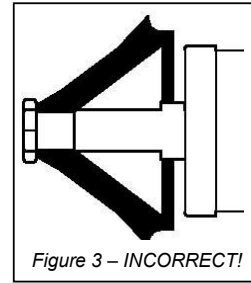
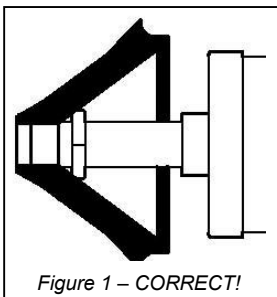
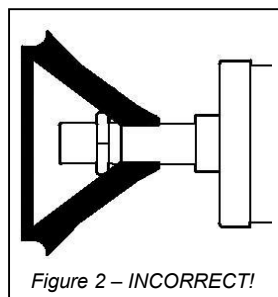

Figure 3 – INCORRECT!
Figure 1 – CORRECT!
Figure 2 – INCORRECT!
3. Use the Lock Nut to hold the cone in place as shown in figure 1, never as shown in figure 3.
1. Thread the 4" Rubber Cone onto the spindle with the point of the cone facing downward as shown in figure 1, not with the point facing the cylinder as shown in figure 2.